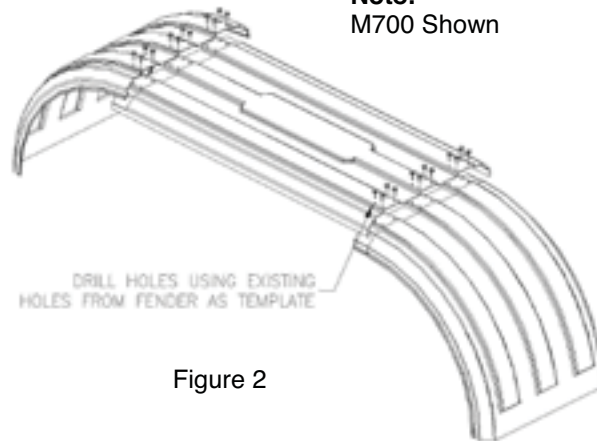

Figure 2
- C. Using the 1/4" x 3/4" long Phillips truss head bolts, attach the fender sections together. Tighten down the bolts using the supplied lock nuts. **DO NOT OVERTIGHTEN** the bolts. Start from the center and work towards the outside. See Figure 2.